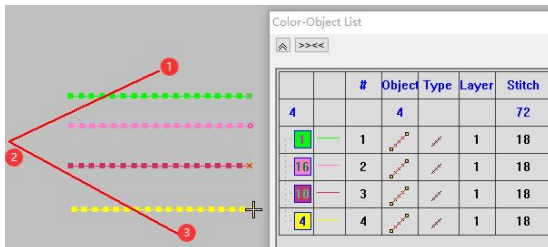

Figure 1
- 2.Use the "Select Sort" tool to draw lines and sort in the workspace (as shown in Figure 1).